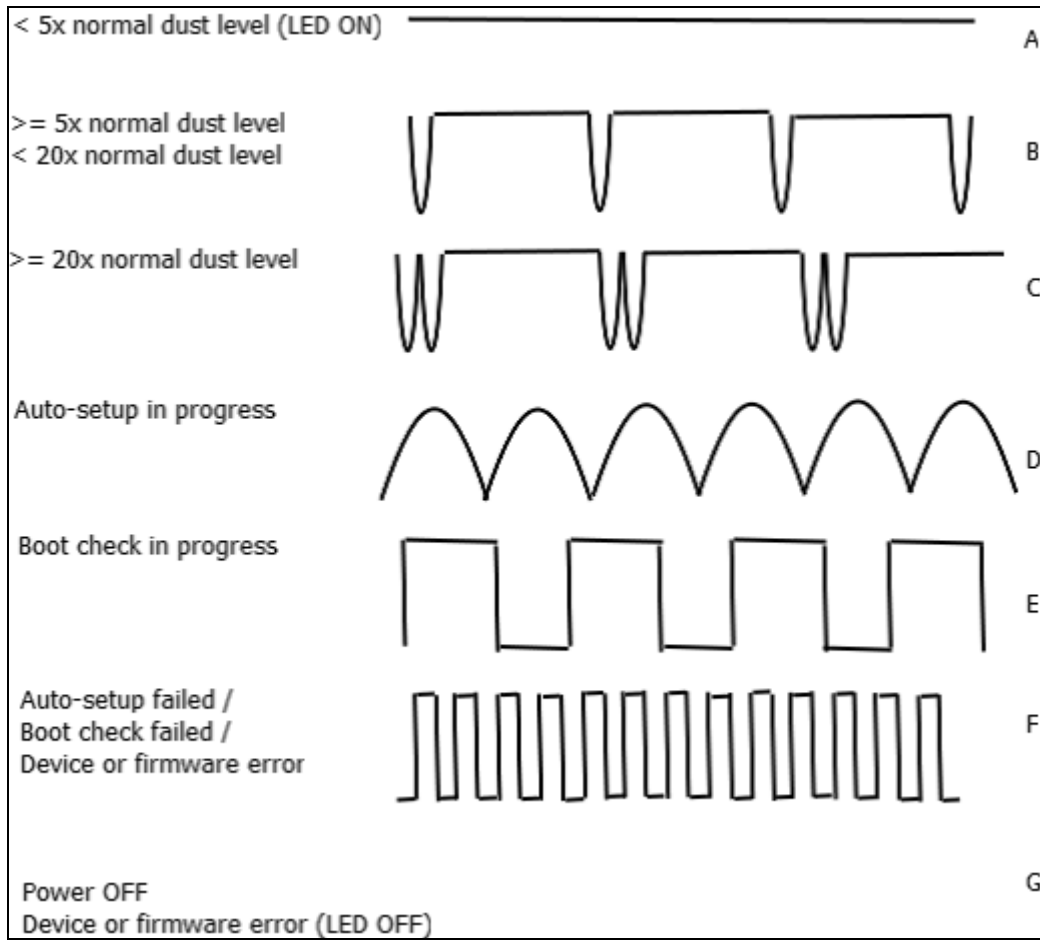

Figure 9 Description of Snifter A2 EX RF cover illumination sequences.
2.1 by connecting the automatic setup signal (green wire) to the V+ signal (wire) for a period of 1 second. The automatic setup will initiate and the front panel light will start to blink slowly (sequence D in Figure 9 Description of Snifter A2 EX RF cover illumination sequences.).